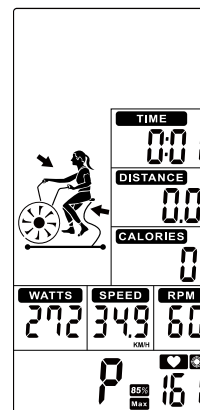

Figure 46
- ③ When start workout, MAX HR lights up, 65% & 85% Heart rate will switch to display. TIME/ DISTANCE/ CALORIES/ WATTS/ SPEED/ RPM will calculate workout value (Figure 46).